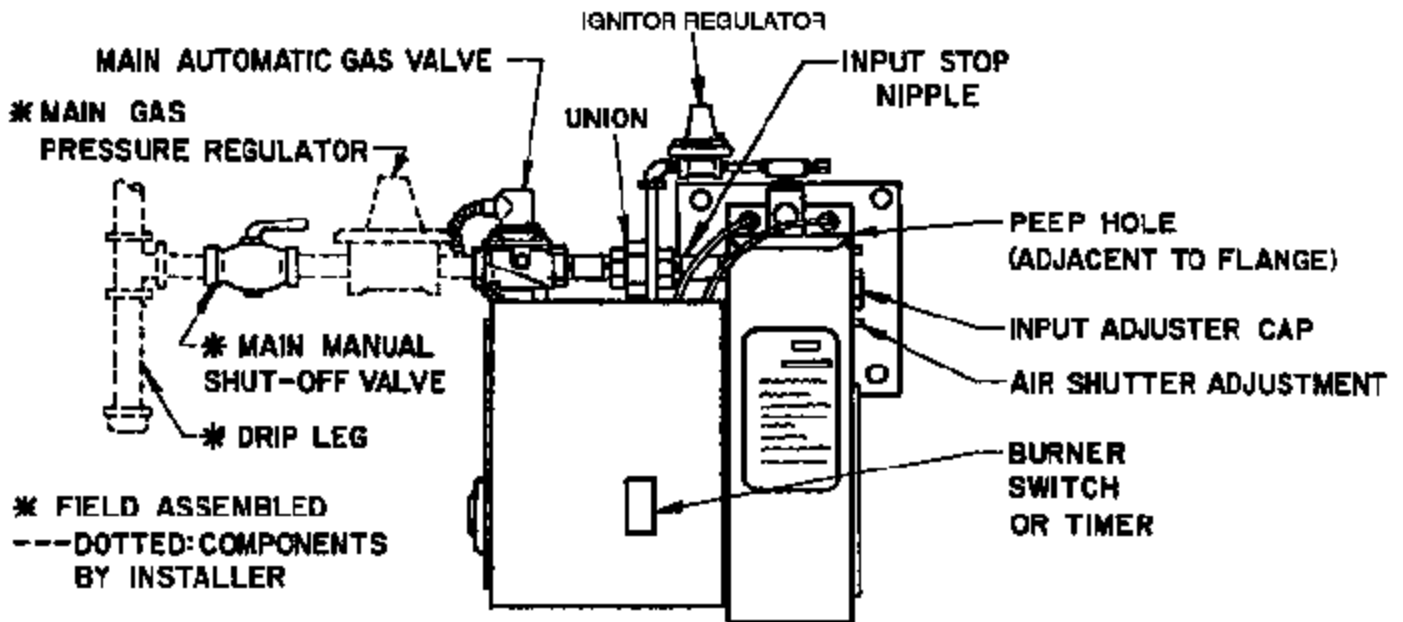
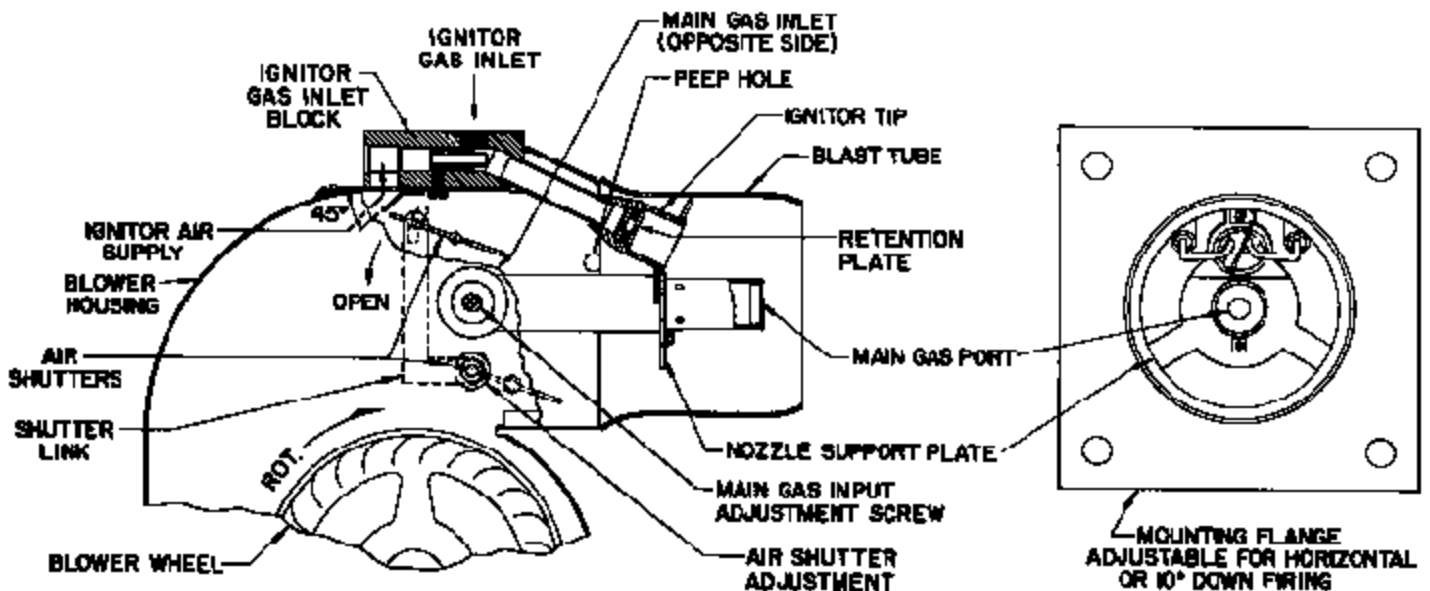

Figure 3 Control Components
Figure 4 General Burner Assembly
Use pipe joint compound resistant to liquid petroleum gases when using either NATURAL or PROPANE gas. Piping must comply with the local and national codes. If the burner piping must be rearranged because of space limitations, be sure to carry out the general configuration shown in Figure 3.
- Remove the input adjuster cap (see Figure 3) and, with the Ignitor and Main Flame on, turn the Main Gas Input Adjusting Screw (see Figure 4) until the desired input rating is reached (refer to Table 2). Turning of adjustment screw counterclockwise increases gas flow; clockwise reduces flow. If Main Flame gas pressure requires adjustment, refer to SECTION V PIPING SUPPLY.
- Check that the Ignitor Air Deflector is at the correct angle (45°). See Figure 4.